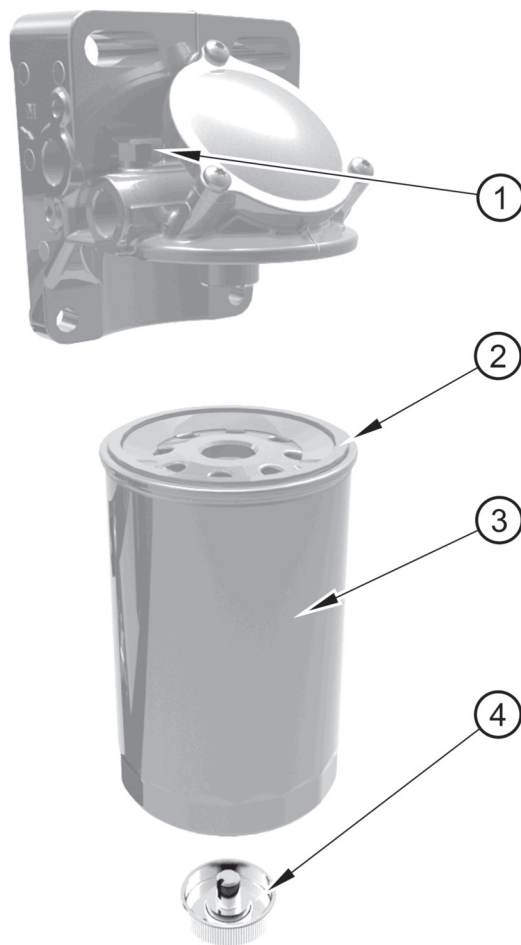

Figure 28
3. Place a soft cloth over the vent screw (figure 28 item 1) on the filter. Open the vent screw in order to relieve the pressure that may be within the fuel system.
4. Open the drain valve (item 4). Allow the fluid to drain into the catching tray. Tighten the drain valve by hand pressure only. Then, tighten the vent screw securely.